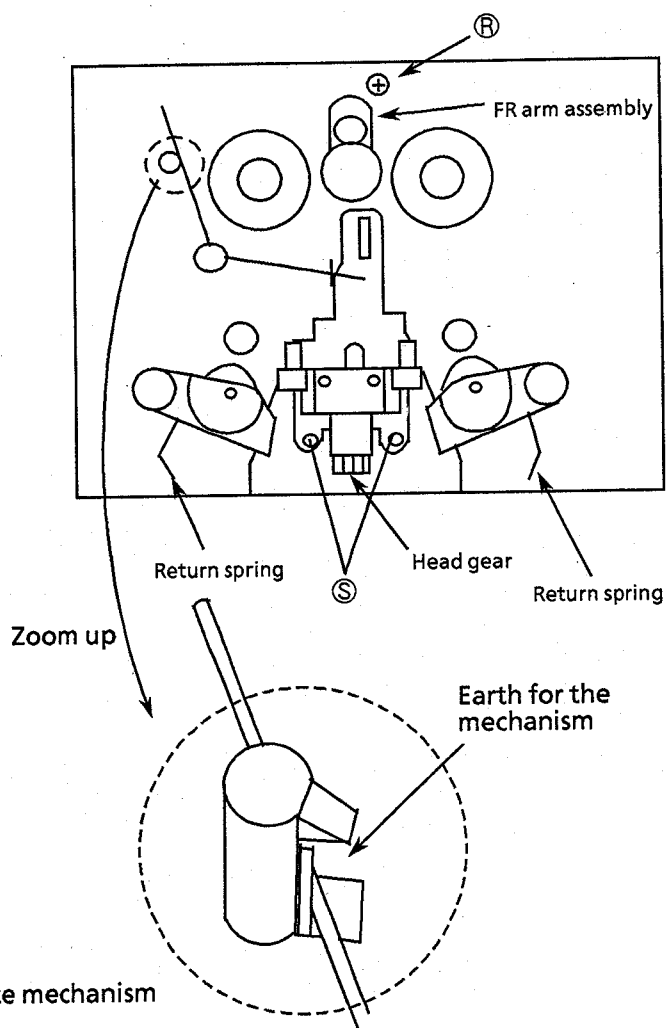

Figure 14 Front view of the cassette mechanism
1. Release the return springs from the hooks (Figure 14).
3. Remove the FR arm assembly (Figure 14).
4. Remove the screws ⑧ fixing the motor.